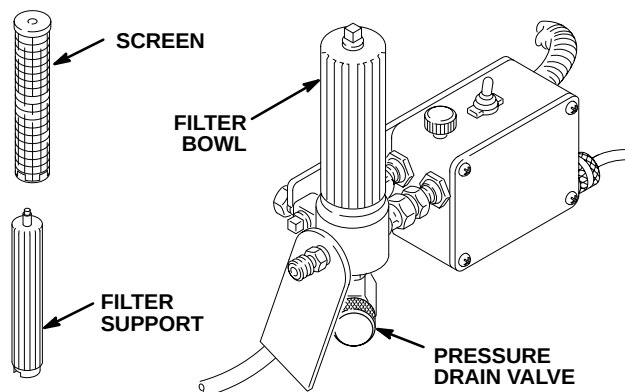

Fig 6
2. Remove the filter bowl and screen: see manual 307–273. Install the bowl (only) to flush it. Close the pressure drain valve. See Fig 6.
9. Clean the filter screen and reinstall it in the bowl. See Fig 6.